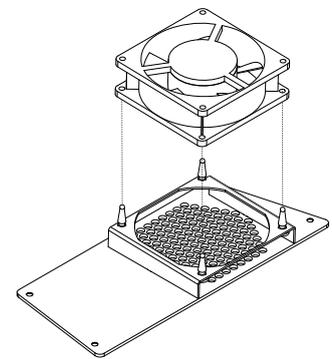
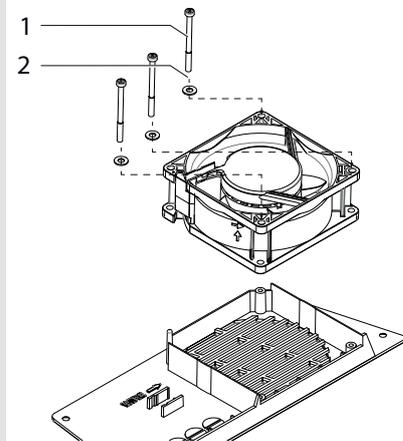

Figure 30: Unplugging the fan
Figure 31: Mounting the fan
- 5. Remove the fan from the cover by pulling it out of the cover or dismount the fan from the cover using the fastening screws. (See position 1 & 2 in figure "Figure 30: Unplugging the fan" on page 47)
- 1. Place the new fan in the holding fixture (Figure 30 or Figure 31 on page 47).